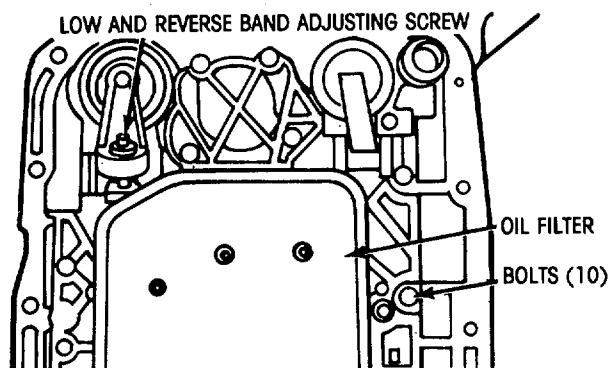

Figure 5-17. Bottom View of Transmission (Pan Removed)
2. Loosen the adjusting screw lock nut and back off nut approximately five turns (figure 5-17). Check adjusting screw for free turning in the lever.